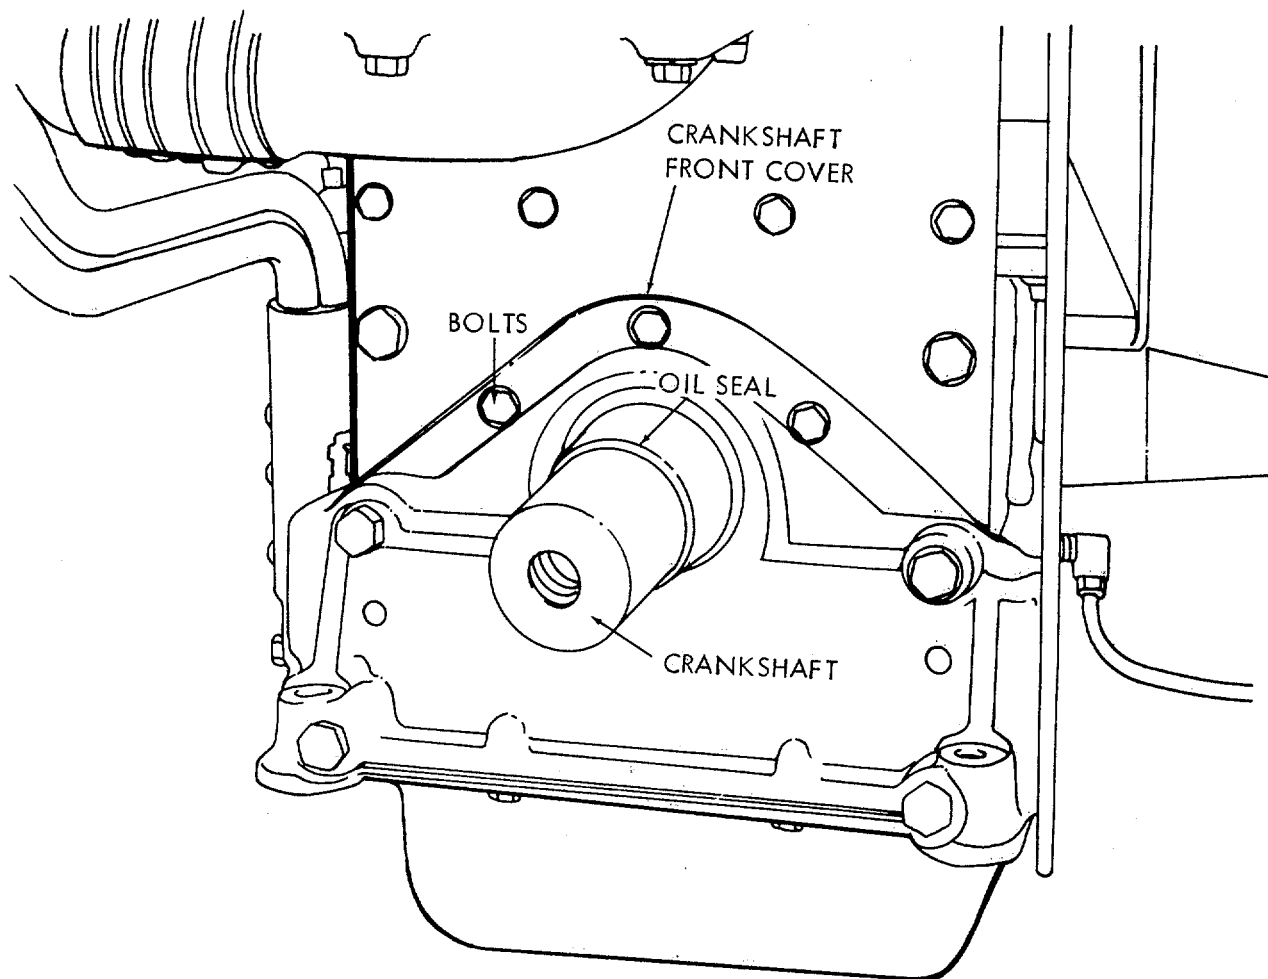

Figure 3-95. Crankshaft front cover, removal and installation.
(1) The crankshaft front cover is mounted against the end plate at the lower front end of the engine as shown in figure 3-95. It serves as a housing for the vibration damper. The engine is supported at the front end by means of engine supports attached to the front cover.